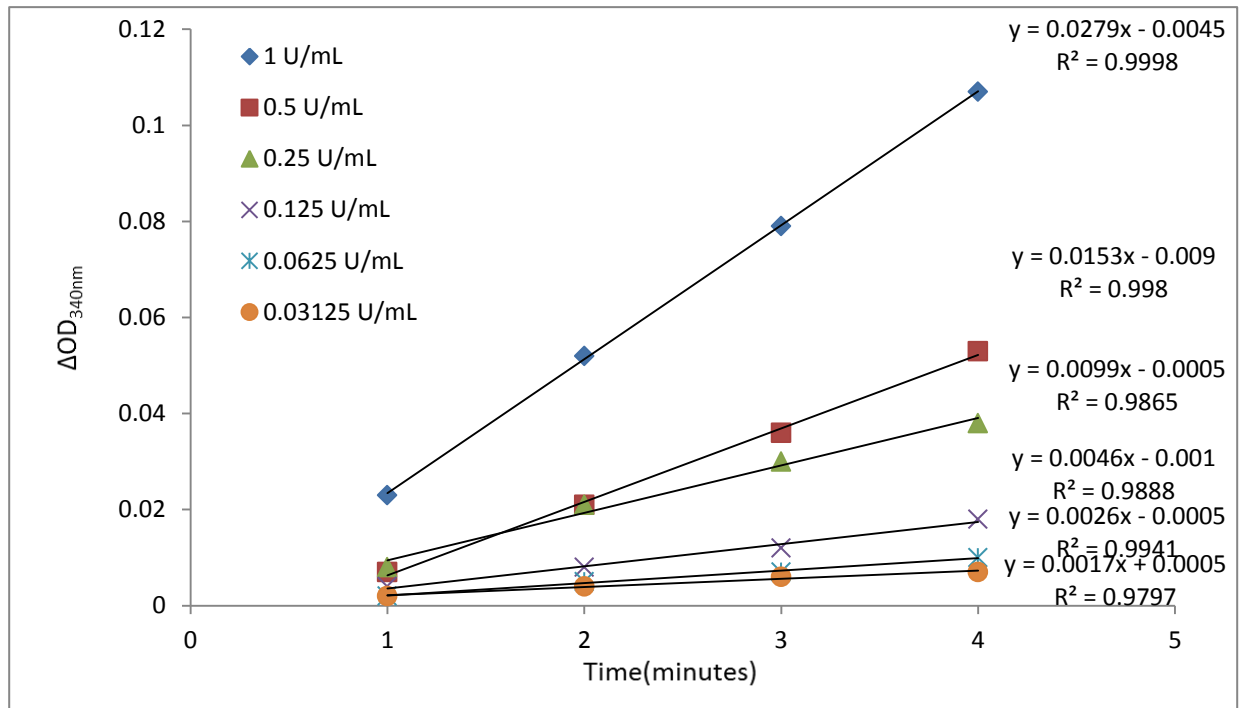

Figure 1. Standard curves of  $\Delta OD_{340nm}$  vs reaction time for alanine transaminase solution with different activity.
Serially diluted alanine transaminase solutions with concentrations ranging from 0.03125 to 1.0 U/mL are measured with the ScienCell™ Alanine Transaminase Assay kit. The decrease in  $OD_{340nm}$  is monitored as a function of time (Figure 1) and the resulting standard curve of  $\Delta OD_{340nm}/min$  vs alanine transaminase activity are plotted (Figure 2). A positive linear relationship between  $\Delta OD_{340nm}/min$  & alanine transaminase activity can be observed.
- as a function of reaction time (Figure 1) in which  $\Delta OD_{340nm} / \text{min}$  is calculated.
Figure 2. A standard curve of  $\Delta OD_{340nm}/\text{min}$  vs alanine transaminase activity, wherein the  $\Delta OD_{340nm}/\text{min}$  is calculated as the slope of the standard curves shown in Figure 1.